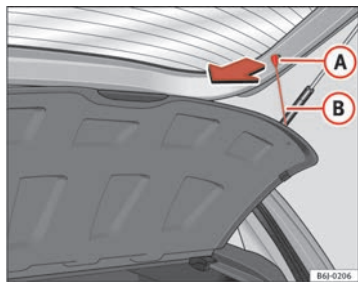

Fig. 90 Rear shelf
- Unhook the loops ⇒ fig. 90 (B) from housings (A).